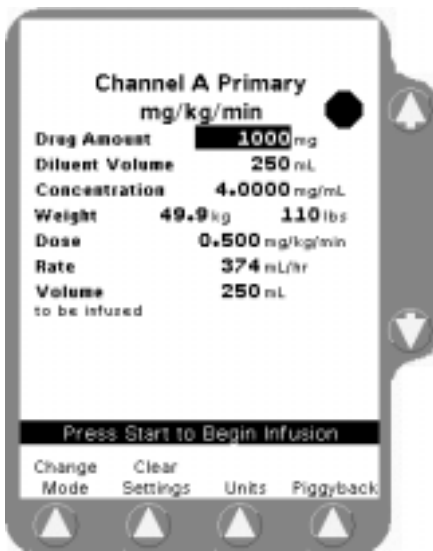

Figure 5-23 Clear Settings
3. If new values for the dose program are to be entered, press the **Clear Settings** soft key and enter new values using the procedure described earlier (Figure 5-23).